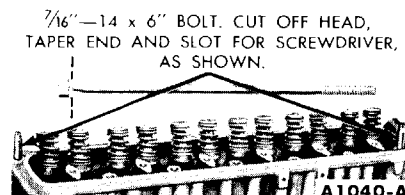

FIG. 16—Cylinder Head Guide Studs
17. Remove all cylinder head bolts. Install the cylinder head guide studs (Fig. 16). Lift the cylinder head assembly off the engine. **Do not pry between the head and block as the gasket surfaces may become damaged.**